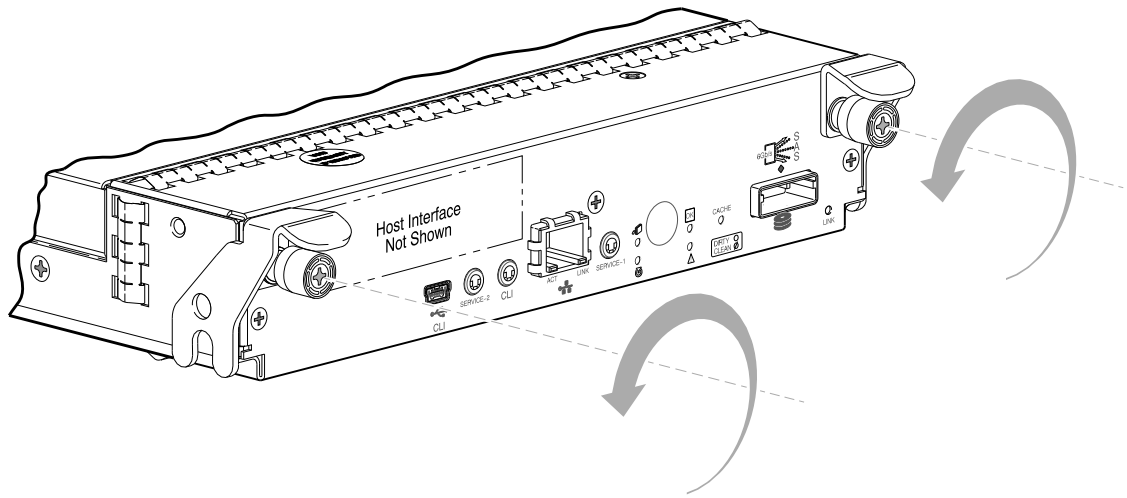

Figure 13 Disengaging a controller module
4. Turn the thumbscrews counterclockwise until they disengage from the controller (see Figure 13 on page 27).